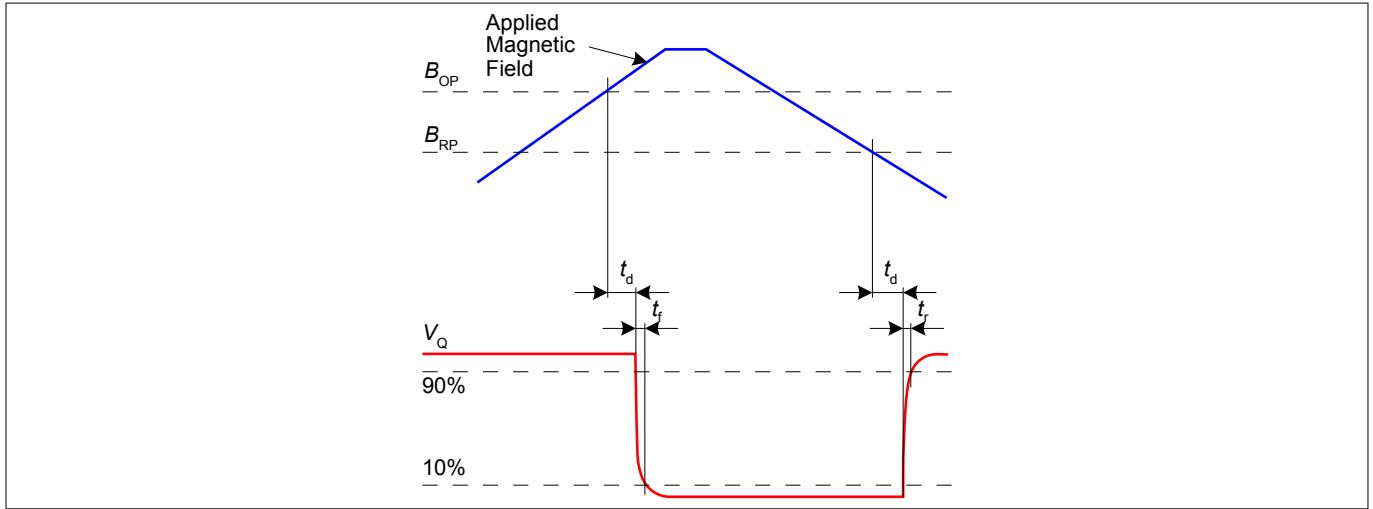

Figure 6 Timing diagram
(1) See Figure 6
(2) To operate the sensor at maximum switching frequency, the value of the magnetic signal amplitude must be 1.4 times higher than the static fields. This is due to the -3 dB corner frequency of the low pass filter in the signal path.